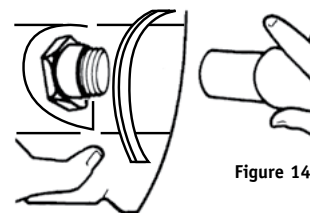

Figure 14
3. Connect breathing tube assembly to helmet by screwing plastic hose connector to fitting located on the rear of the helmet. Turn clockwise to tighten (Figure 14).